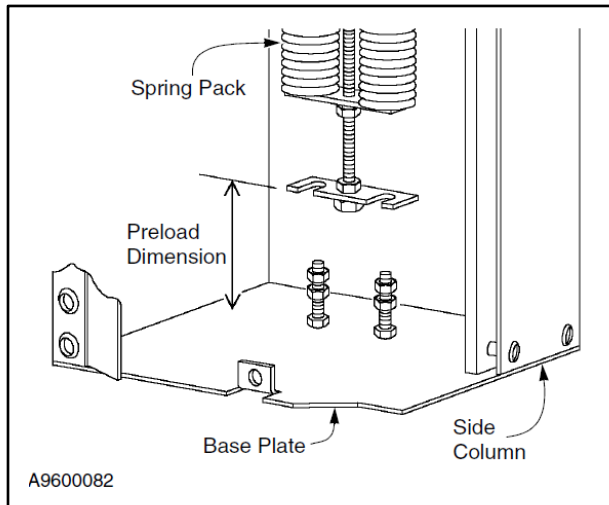

**Figure 36**
4. Locate the two threaded weld studs with nuts mounted to the base plate. Check the bottom set of nuts to be sure they are tight and loosen the top set of nuts. (See Figure 36.)